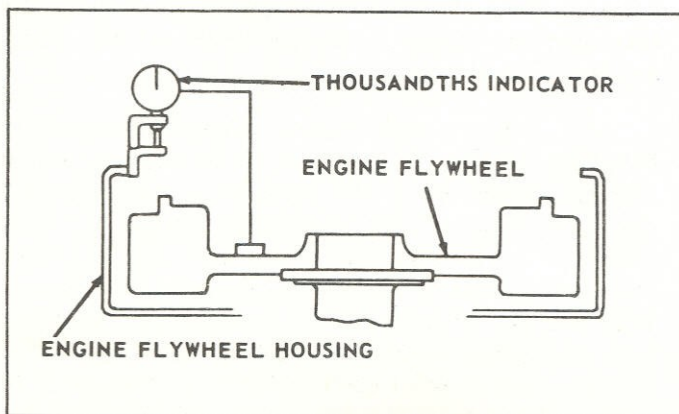

Figure 38. Checking the Bore of the Engine Flywheel Housing.
**C. Checking Bore of Engine Flywheel Housing.** With indicator bolted as in Paragraph 50B above, adjust the indicator stem so that it will ride on the bore of the engine flywheel housing (fig. 38). Rotate the engine flywheel and note the bore eccentricity of the engine flywheel housing bore. The bore eccentricity must not exceed .008 inch.